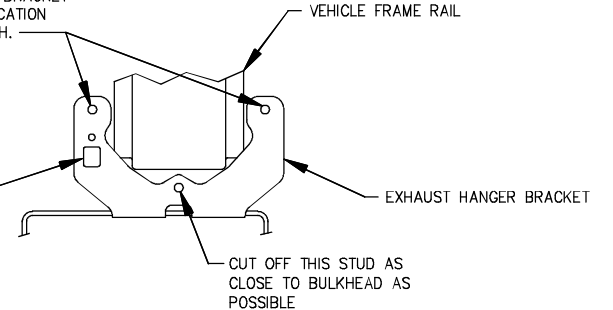

FIGURE 2
- CAREFULLY CUT OFF LOWER STUD, EACH SIDE, AS CLOSE TO BULKHEAD AS POSSIBLE (SEE FIGURE 2). DO NOT CUT OFF TWO (2) UPPER STUDS.
- RE-INSTALL EXHAUST HANGER BRACKETS, USING (2) OF THE (3) NUTS REMOVED IN STEP 3, ON (2) UPPER STUDS (SEE FIG. 2). HANGER BRACKET MUST BE ORIENTED SO THAT SQUARE HOLE IN BRACKET ALIGNS WITH RETAINING CLIP IN VEHICLE BULKHEAD.